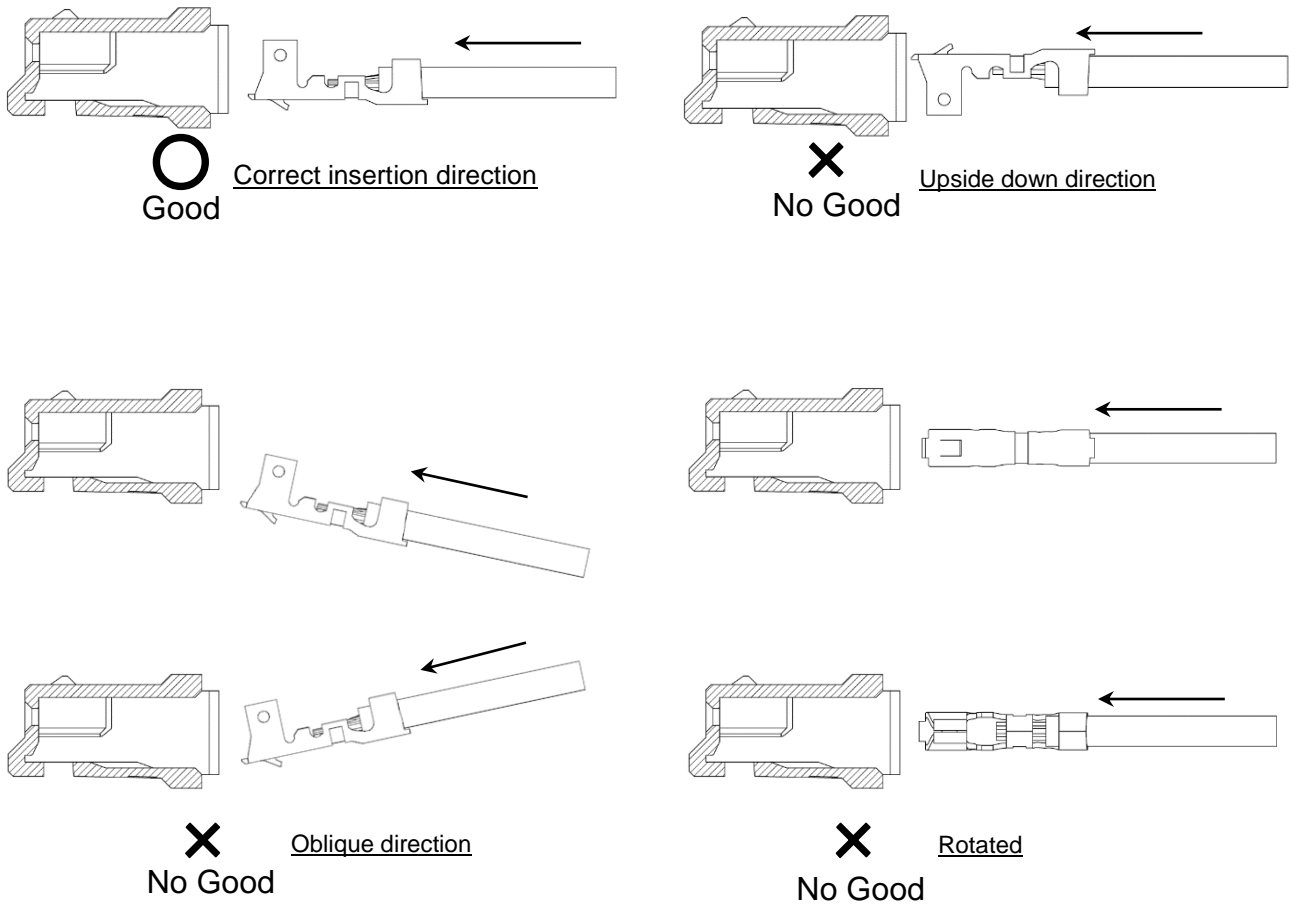

**Fig. 5-1**
1. Hold receptacle housing by pinching right and left side softly. (Fig.5-1)
2. Please hold the cable at about 10mm away from the crimped portion with fingers lightly. (Fig.5-1)
3. Hold wire and have terminal lance part toward receptacle housing, then insert terminal slowly and straightly till the tip of terminal touches housing (with force of around 3~5N). (Fig.5-1)